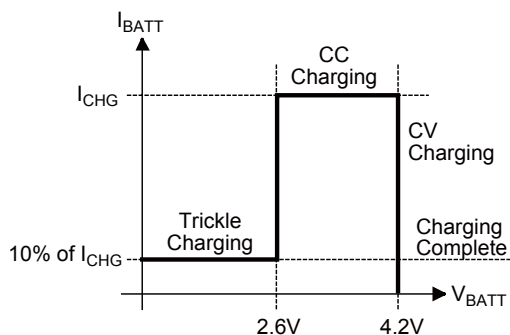

Figure 2—MP2631 Typical Charging Profile
Figure 2 below shows the typical charging profile for the MP2631. It begins charging at the constant current of the programmed value (I_{CHG}). This is referred to as Constant Current (CC) mode. For a deeply discharged battery, it will start trickle at 10% of the programmed charge current until battery voltage reaches 2.6V. Once the battery voltage reaches 4.2V, the charger will operate in the constant voltage (CV) charge mode. The charge current drops during CV mode, and the battery full indication is set when the charge current reduces to the battery full value (I_{BF}) at 10% of the nominal charge current.